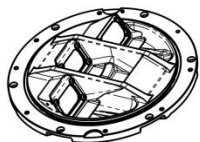

Figure 5-19
- Push the prism and its gasket sleeve to the working position on the upper cover. When pushing them, water clean water at the window and wipe the prism surface with the diethyl ether to keep it clean (see Figure 5-19);